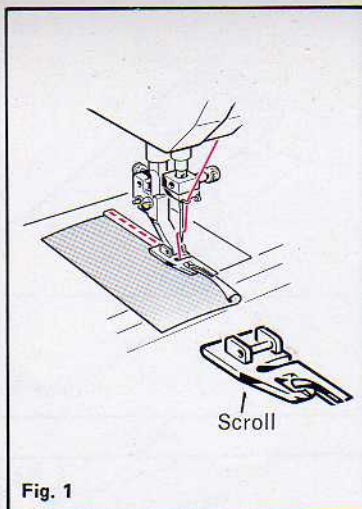

Fig. 1
- Make sure that edge of the fabric is cut straight. Turn a tiny double hem (1/8 inch) along edge for about two inches. Place end of this hem under Narrow Hemmer. Hold thread **taut** while stitching along **inside** edge of hem. Feed fabric gradually into "scroll" in hemmer, guiding edge of fabric as shown (Fig. 1). You may wish to use a very shallow zigzag stitch or small delicate design stitch.